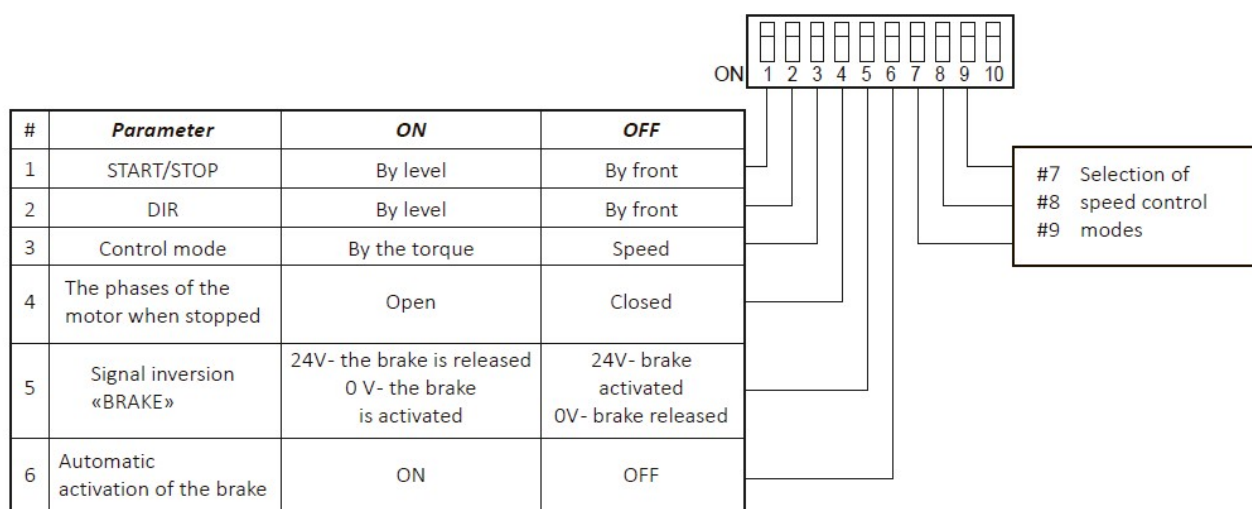
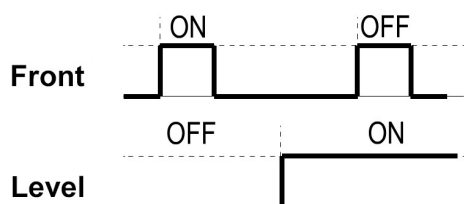

Fig. 2. Purpose of microswitches SW1 – SW10
Fig. 5. Control signals START/STOP and DIR – front and level types
The controller has the ability to configure the logic for processing the control signals "START/STOP" and "DIR". The control signals are processed by a front or by a level, depending on the position of the microswitches SW1 (START/STOP signal) and SW2 (DIR) on the front panel (see the diagram in Fig. 2).
The motor rotation direction is changed by the "DIR" button on the front panel of the controller or by an external signal, when the line connected to the "DIR" terminal is closed to the GND signal ground. In the -10...+10V control mode, the DIR button and the external DIR signal are not active. In this case, the direction of rotation is changed by changing the polarity of the voltage. Setting the external "DIR" signal is similar to the START/STOP signal - (see Fig. 2, item 6.4. Fig. 5). The DIR button and signal operate according to the OR logical circuit.